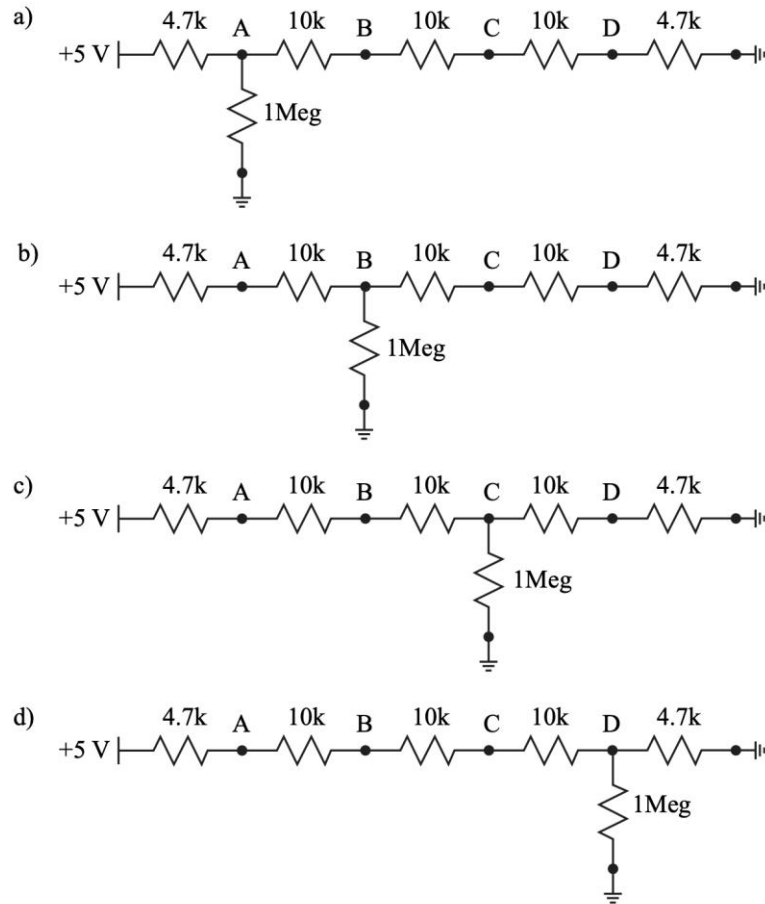

Figure 3.2: Resistor ladder with a 1 M Ω resistor attached at nodes A through D ((a) through (d)).
2. When measuring the node voltages in real life, an oscilloscope is used. The scope probes have a finite input resistance of $1\text{ M}\Omega$. Re-simulate the node voltages with a $1\text{ M}\Omega$ resistor at nodes A through D, Figure 3.2 (a) through (d). There should be a total of 4 simulations with node voltages A through D for each simulation. Table the values.